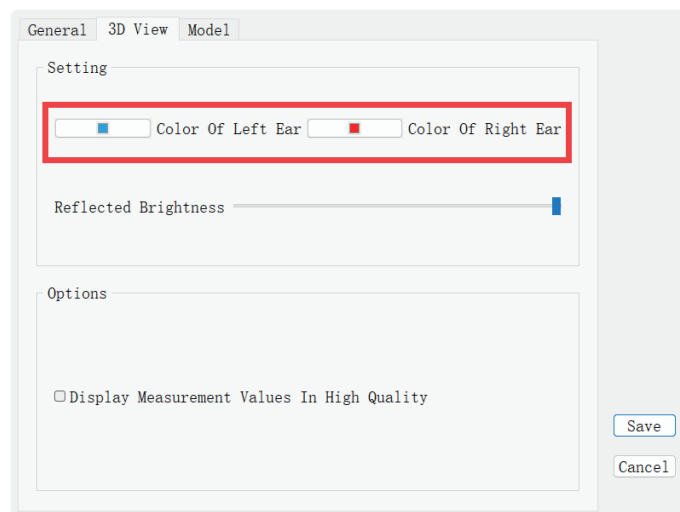

Figure 5-2
(2) In 3D View--Setting, you can change the color of the ear impression model during scanning. The default is blue on the left and red on the right. See Figure 5-2.